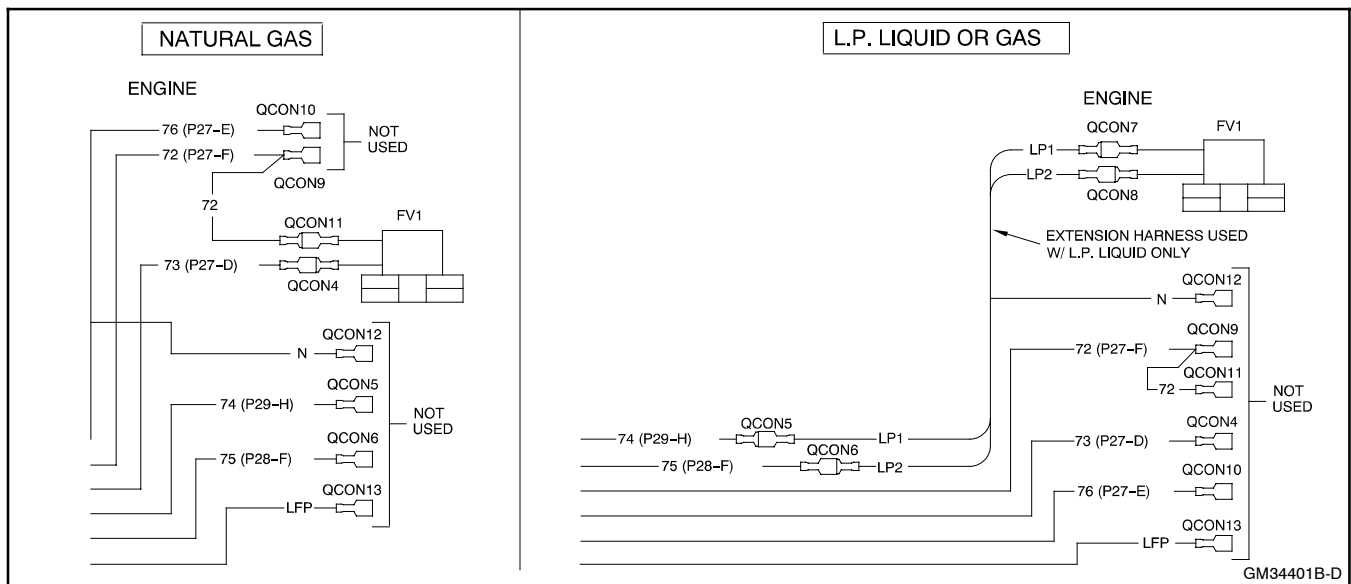

Figure 9-40 Solenoid Shutoff Valve Wiring
- Disconnect wires 72 and 73 from the solenoid shutoff valve (FV1). Tape to insulate the terminals. See Figure 9-40, Natural Gas view.
- Connect wires 74 and 75 to the solenoid shutoff valve (FV1). See Figure 9-40, LP Gas view.